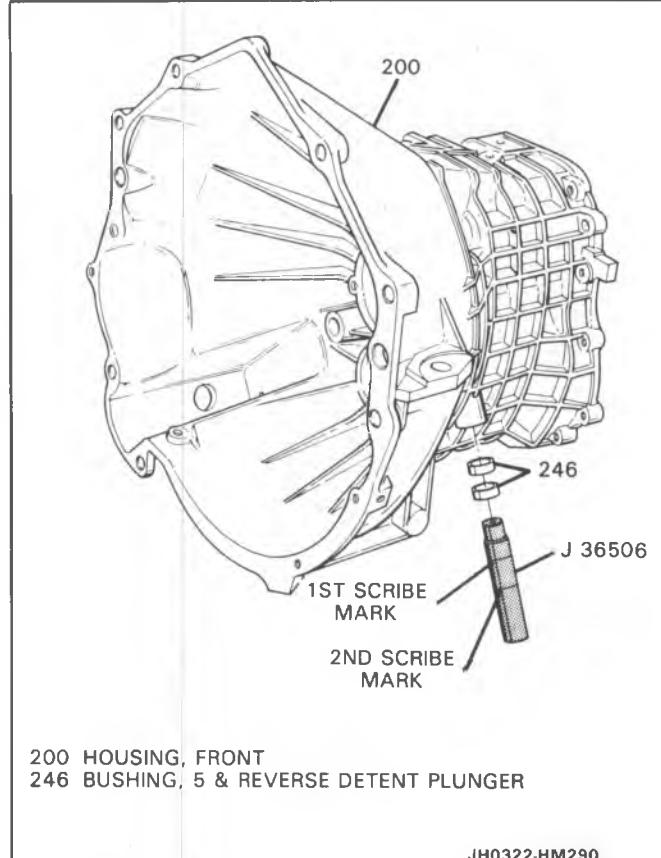

Figure 51 5th-Reverse Detent Bushings Install
6. NEW Countershaft bearing plug (250) using J 36799 and J 8092.
7. Two 5th-reverse detent bushings (246), using J 36506 (Figure 51).